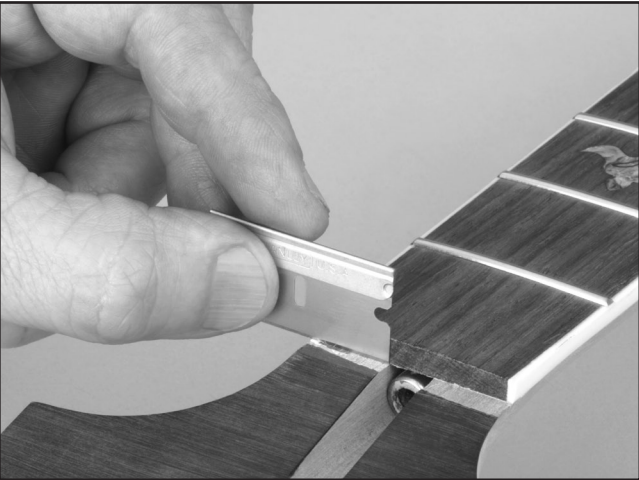

Figure 29. Cleaning out the nut slot.
- 1. Use a chisel or razor blade to scrape any finish out of the nut slot (**Figure 29**). DO NOT remove any wood from the nut slot.